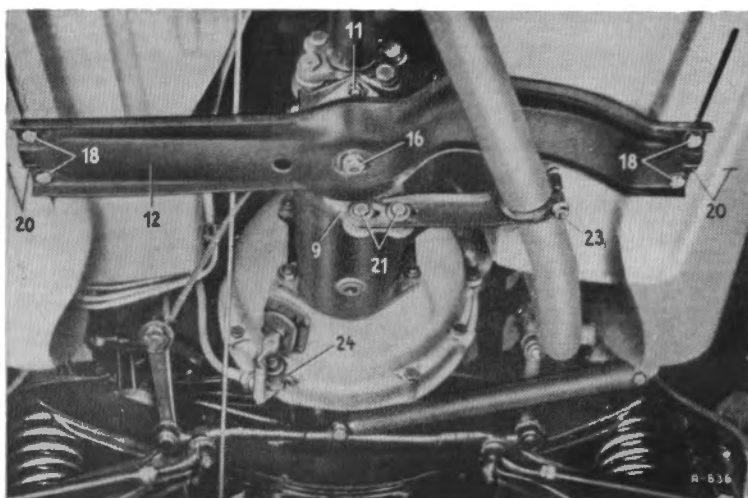

Fig. 00-1/4
Detach the center brake cable from the brake lever and take it out of the cable guide of the front axle support and the support (12). Then remove the support (Fig. 00-1/4).